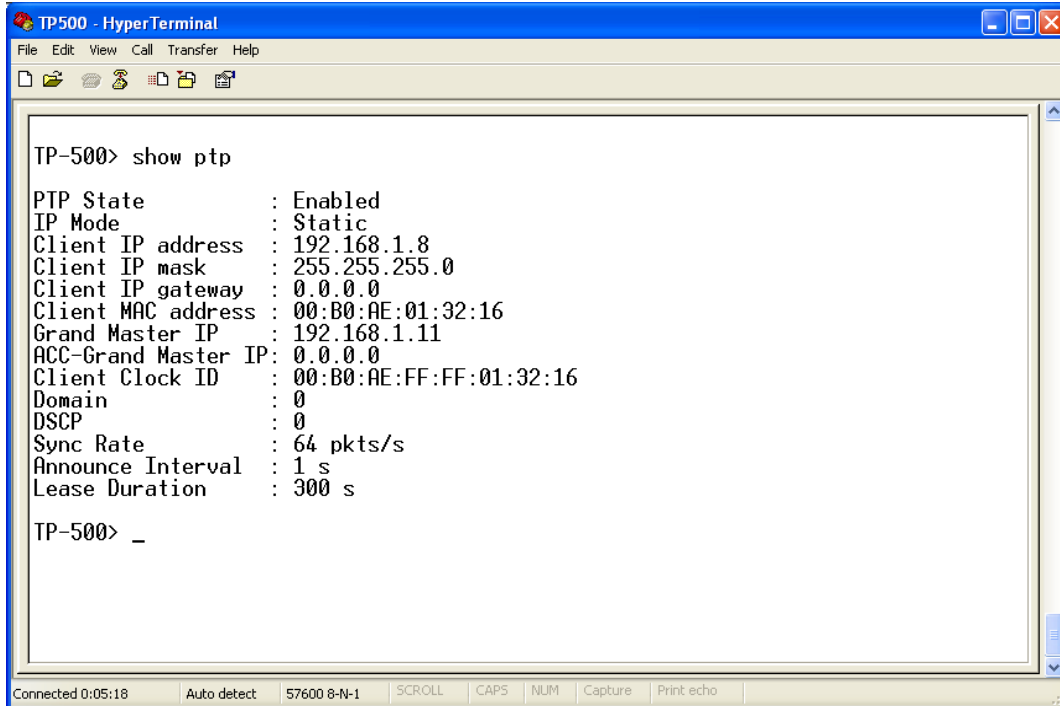

Figure 1-11. Show PTP Response Example
Type `show ptp` to view a list of current PTP-related settings, which includes the IP address, subnet mask, and gateway of the TimeProvider 500 as shown in Figure 1-11 and Table 1-3.
1. Use the `show ptp` command to view the current PTP settings. See the Grand Master IP address shown in the Figure 1-11 example.
To configure access to a second grandmaster, the procedure is identical to the procedure in Configure Target IP Address for Grandmaster Clock\(s\), except that the `set ptp acc-master` command is used instead of the `set ptp master` command. Confirmation of the configured acceptable master address can be seen via `show ptp` as shown in Figure 1-11. In the example, note that the ACC-Grand Master IP is shown as 0.0.0.0, which is the factory default (unconfigured). If the second grandmaster is not being used, it is recommended that the 0.0.0.0 setting be left because this clues the TimeProvider 500 to not attempt communication with a second grandmaster.